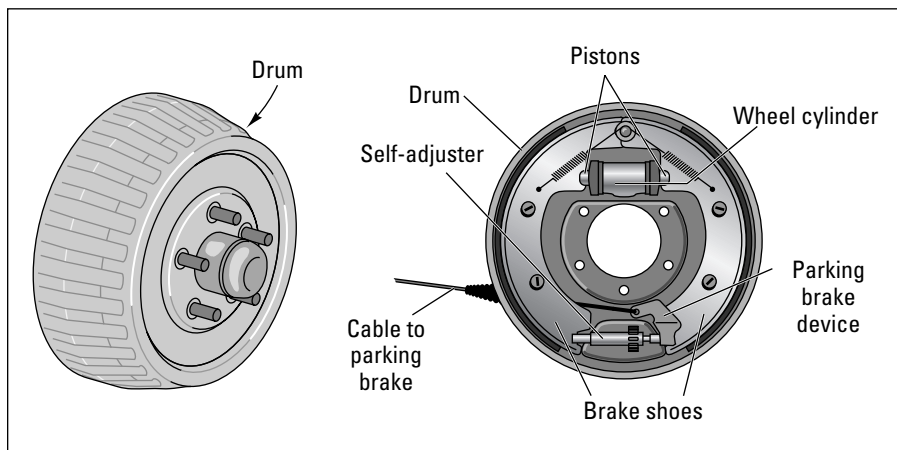

Figure 15-5: Anatomy of a drum brake.
11. **Look at the rest of your brakes, which are still attached to the brake backing plate (see Figure 15-5).**
12. **Take a look at the *self-adjusting devices* on your brakes. (Figure 15-5 shows one of the most common self-adjusters.) Trace the cable from the anchor pin above the wheel cylinder, around the side of the backing plate, to the adjuster at the bottom of the plate.**